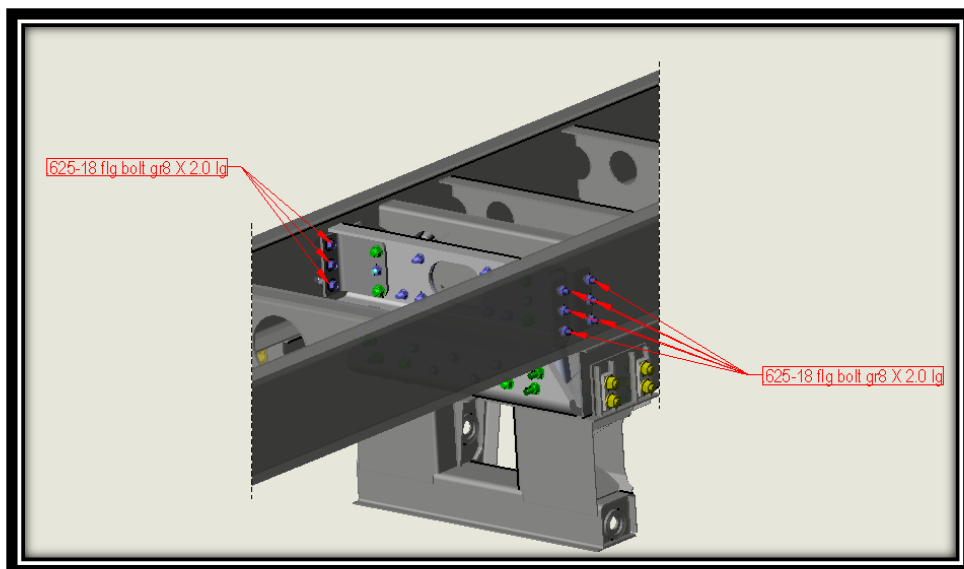

FIG. 11-1
20. Install (12) 5/8-16 x 2.0 lg bolts thru angle mounting brackets 4-17875 & 4-17877, the TDA frame and 5/8 flange nuts. Loosely fasten hardware. Refer to FIG. 11-1.